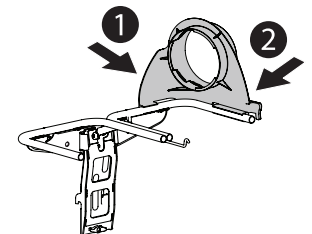

Figure 9
1. Snap the upper chute support (731-17091) in place by first clipping the side portion onto the hanger assembly rail (1), as shown in Figure 9.
2. Snap the front side of the upper chute support to the rail (2), as shown in Figure 9.